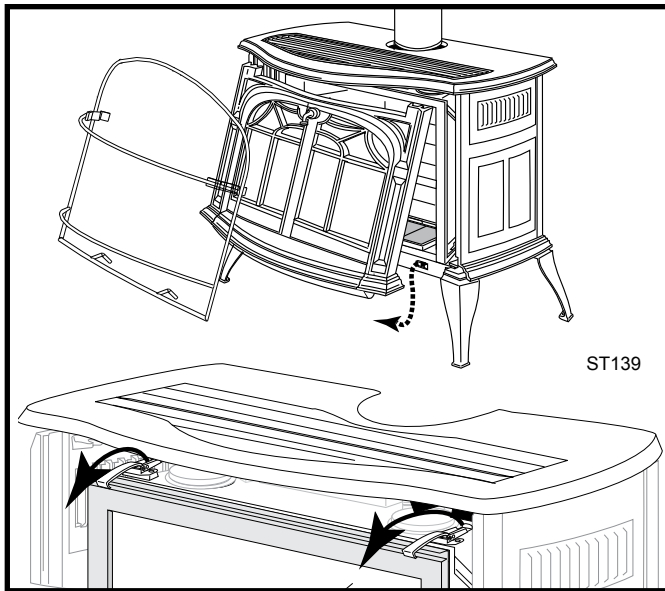

Figure 84 Remove the stove front and glass frame.
Replace glass only with Vermont Castings Group approved parts. Refer to Page 44 for Replacement Parts. Refer to Figure 84 for removal of the damaged glass frame.
1. Remove the barrier screen, front, glass frame and glass panel. (Figs. 84) Remove the old gasket. Use a razor blade to separate the glass and gasket from the frame, and to clean the glass of any remaining cement or bits of gasket. Use a cold chisel if necessary.